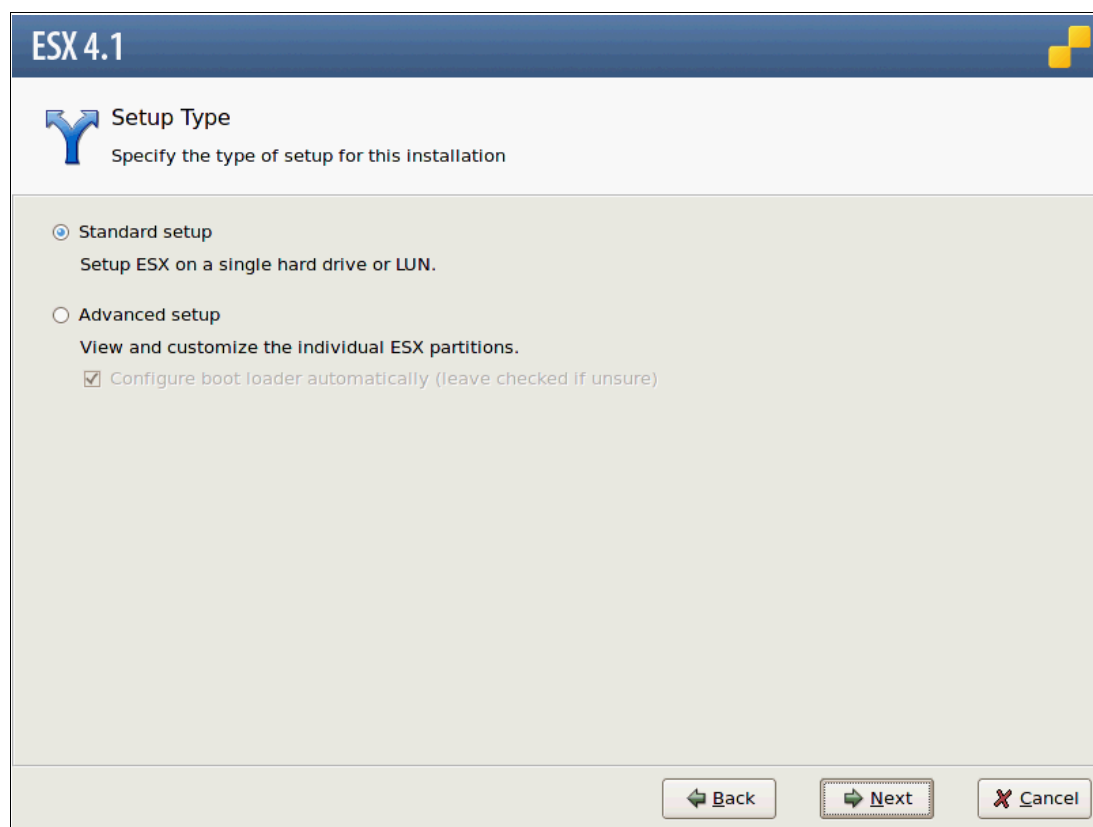

Figure 22-23 ESX Setup Type
12. In the Setup Type window (Figure 22-23), if custom partitions configurations are not required, select **Standard setup** and click **Next**.